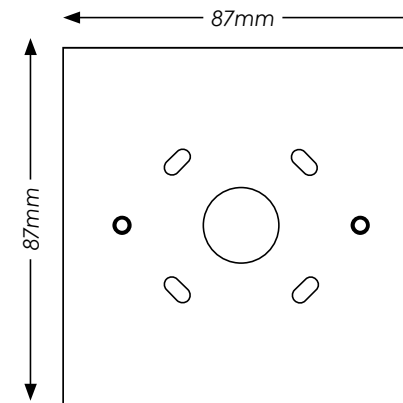

Fig. 1 Backbox
1. Fit the backbox (**Fig 1**) to the wall.